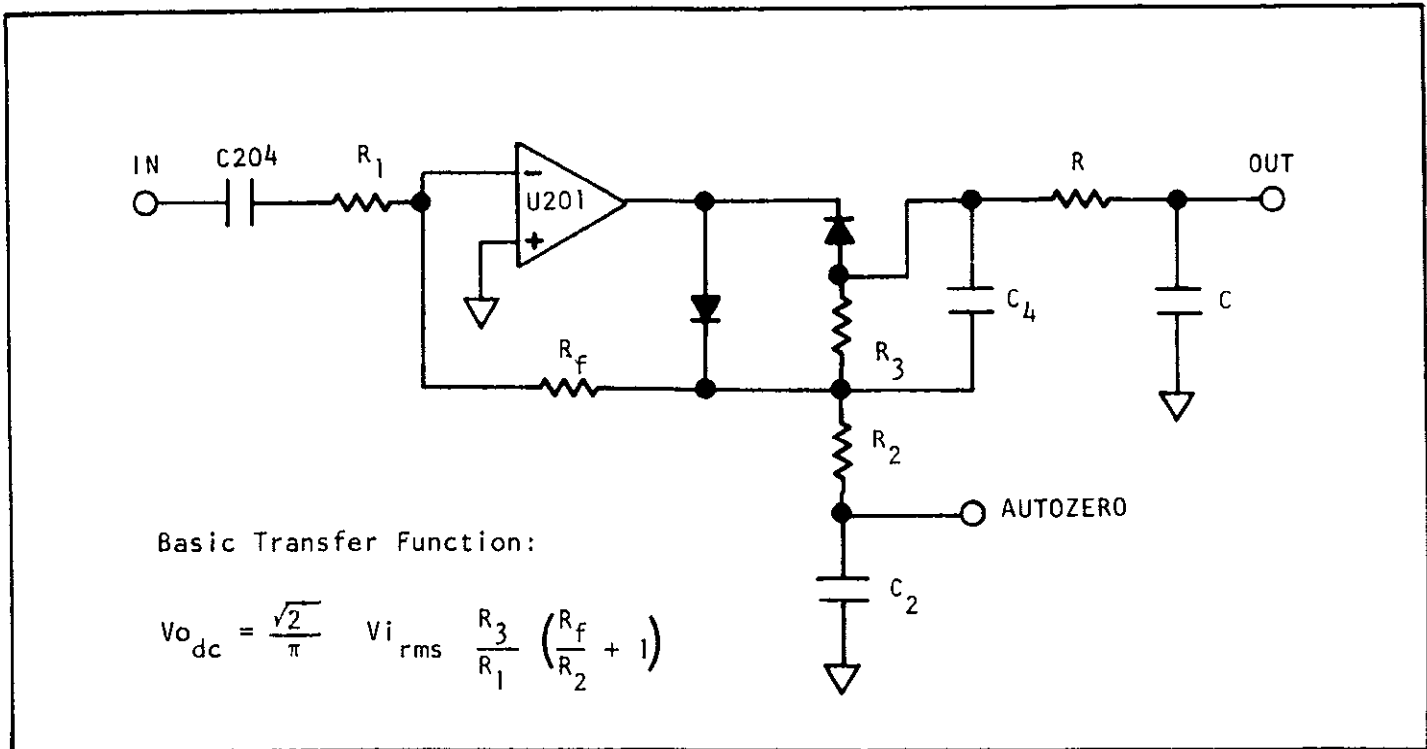

FIGURE 5-4. Simplified Schematic of AC/DC Converter.
1) The basic transfer function of the AC/DC converter is shown on the simplified schematic (Figure 5-4). The resistor values were selected so the  $1V_{acrms} \text{ in} = -1V_{dc} \text{ out}$ . Above 3 volts, feedback resistance ( $R_f$ ) is reduced to keep the output always less than -3Vdc. The dc output is a half-wave rectified sine wave, and the converter is average responding, calibrated to the rms value of a sine wave.